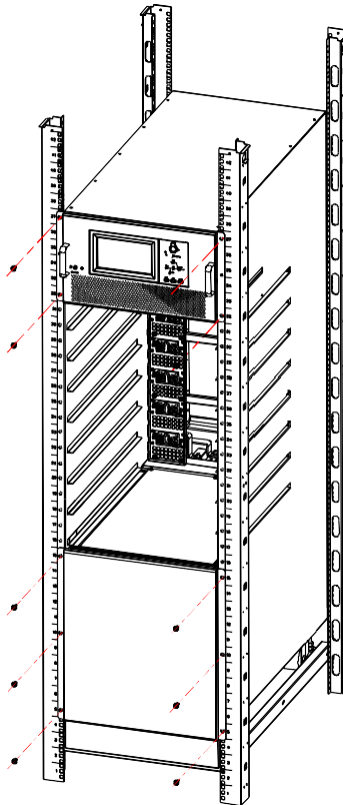

Figure 3-10 Load the UPS into the server cabinet
5. Load the UPS into the server cabinet, place on rack tray, and lock the bypass module and the manual bypass switch panel screws(6-slot cabinet needs to remove stationary barrier first), as Figure 3-10 shows;